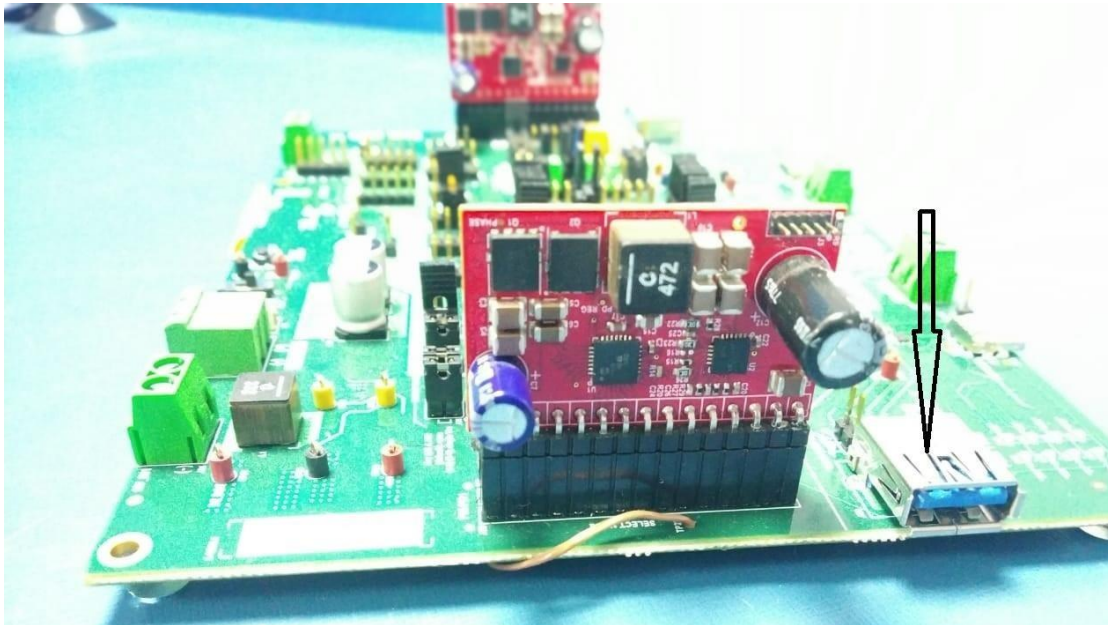

Figure 5.1 PM-PD Orientation
1. Connect PM-PD cards on J4 in correct orientation as shown in Figure 5.1